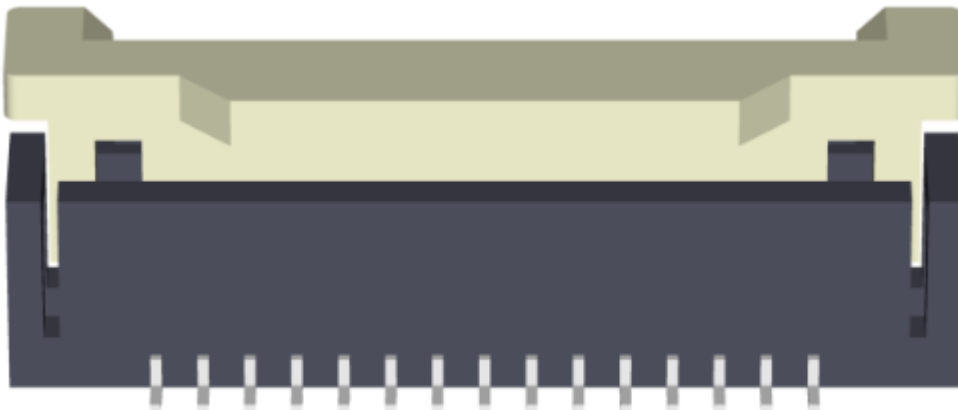

Figure 3. Gently lift the connector latch
1. Gently lift up the connector latch. See Figure 3.